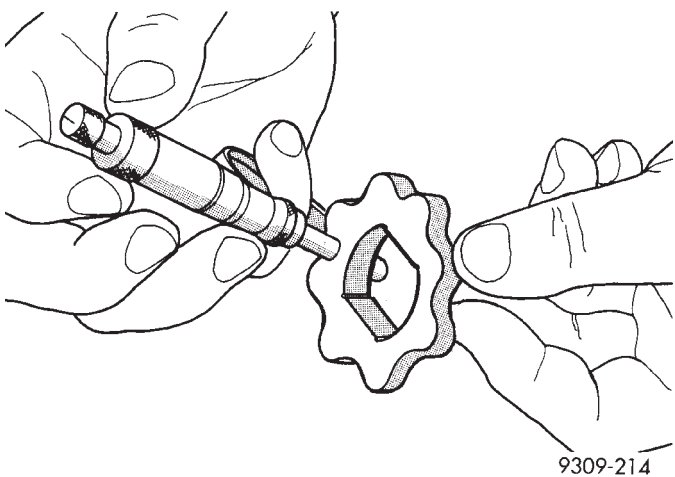

Fig. 97 Measuring Inner Rotor Thickness
(4) If inner rotor measures 7.64 mm (.301 inch) or less replace inner rotor (Fig. 97).